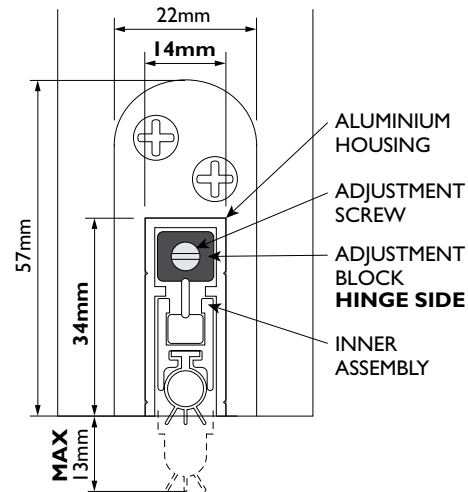
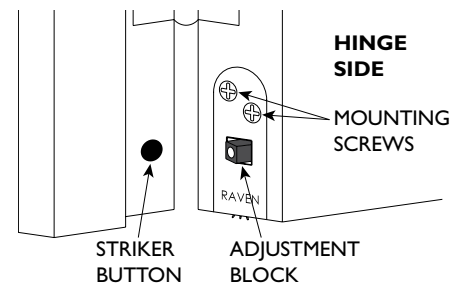

FIG.2
FIG.3
- STEP 6** Fit seal into groove with adjustment block on **hinge** side of door and secure escutcheon plate with screws supplied (FIG.2), making sure tongue is firmly supporting seal housing. (FIG.3)
- STEP 7** Fit second escutcheon plate on **latch** side. (FIG.3)
- STEP 8** Re-hang door. For soft timber jambs, position striker button where adjustment block meets door jamb. (FIG.2)
- STEP 11** The seal is factory set to seal a door bottom that is parallel with the floor (excludes 600mm unit length). To adjust, screw **level adjustment screw** with a Phillips head screwdriver. (FIG.3)